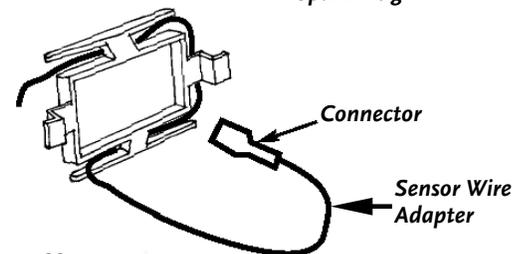

Figure 22
4. Thread the Sensor Wire Adapter through the Meter Mounting Bracket as shown (**Figure 22**) leaving sufficient wire length to form a loop when the connector is placed on the Meter.